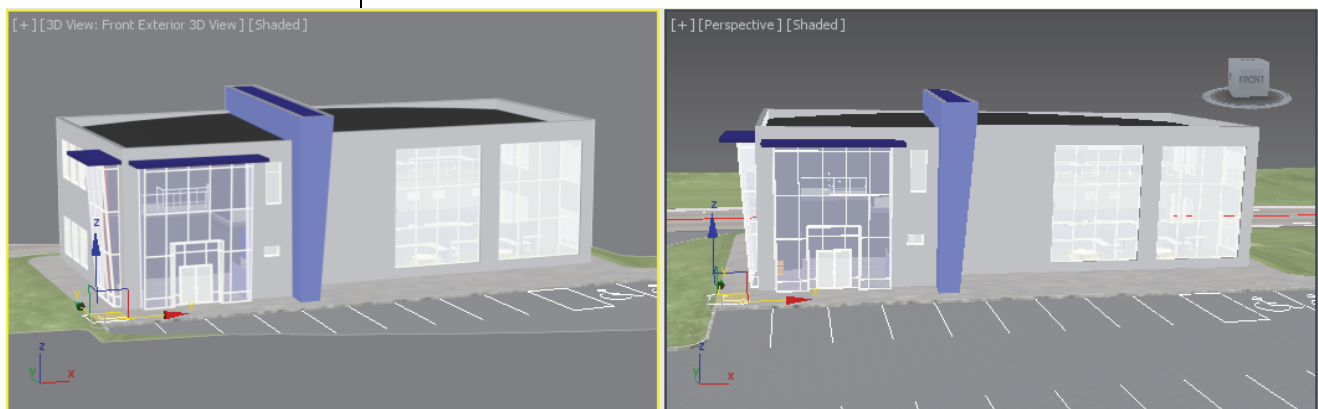

Figure 3-38
19. In the Perspective viewport, use  (Zoom) and  (Orbit) to zoom into the building and parking lot area, as shown in Figure 3-38.
21. Use **Pan** to display the complete building in the viewport, as shown in Figure 3-38.